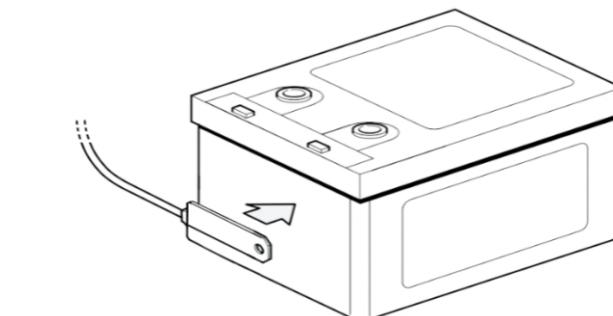

Figure 19 BTS Mounted on the Battery Case
4. Peel the protective backing from the self-adhesive strip on the rear of the sensor. Press the sensor firmly against the clean side of the battery to fix it in place, as shown in Figure 19.